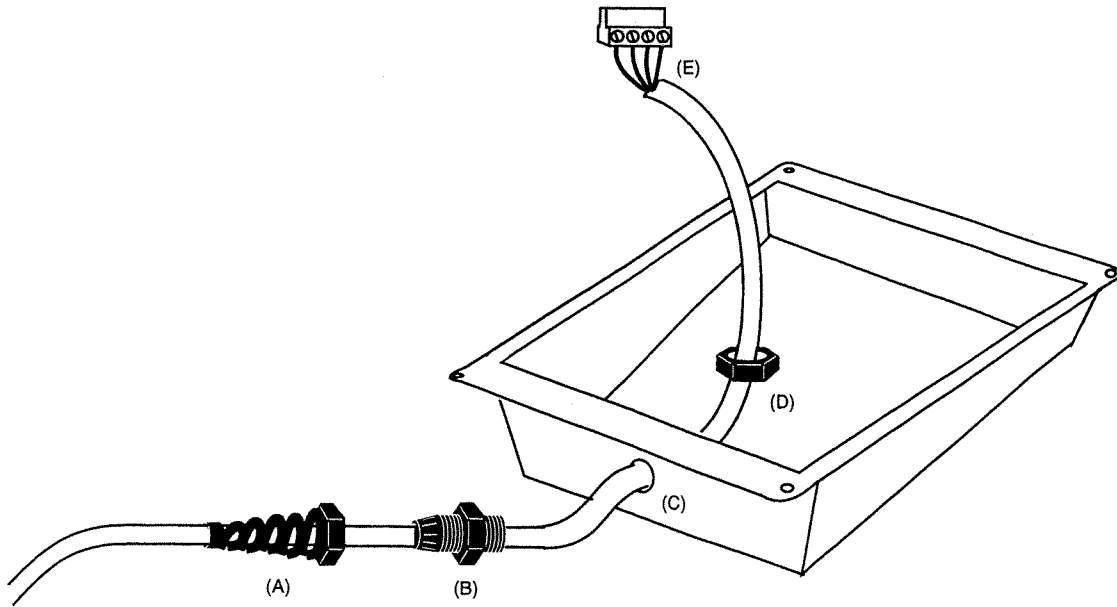

Figure 9.
3. Refer to Figure 9. Thread the cable through the strain relief (A), the bushing (B), the hole in the back cover (C), and the nut (D). Assemble the nut, bushing, and strain relief, leaving about 2 to 3 inches of cable inside the back cover. Strip the cable for wiring to the J20 connector (E).